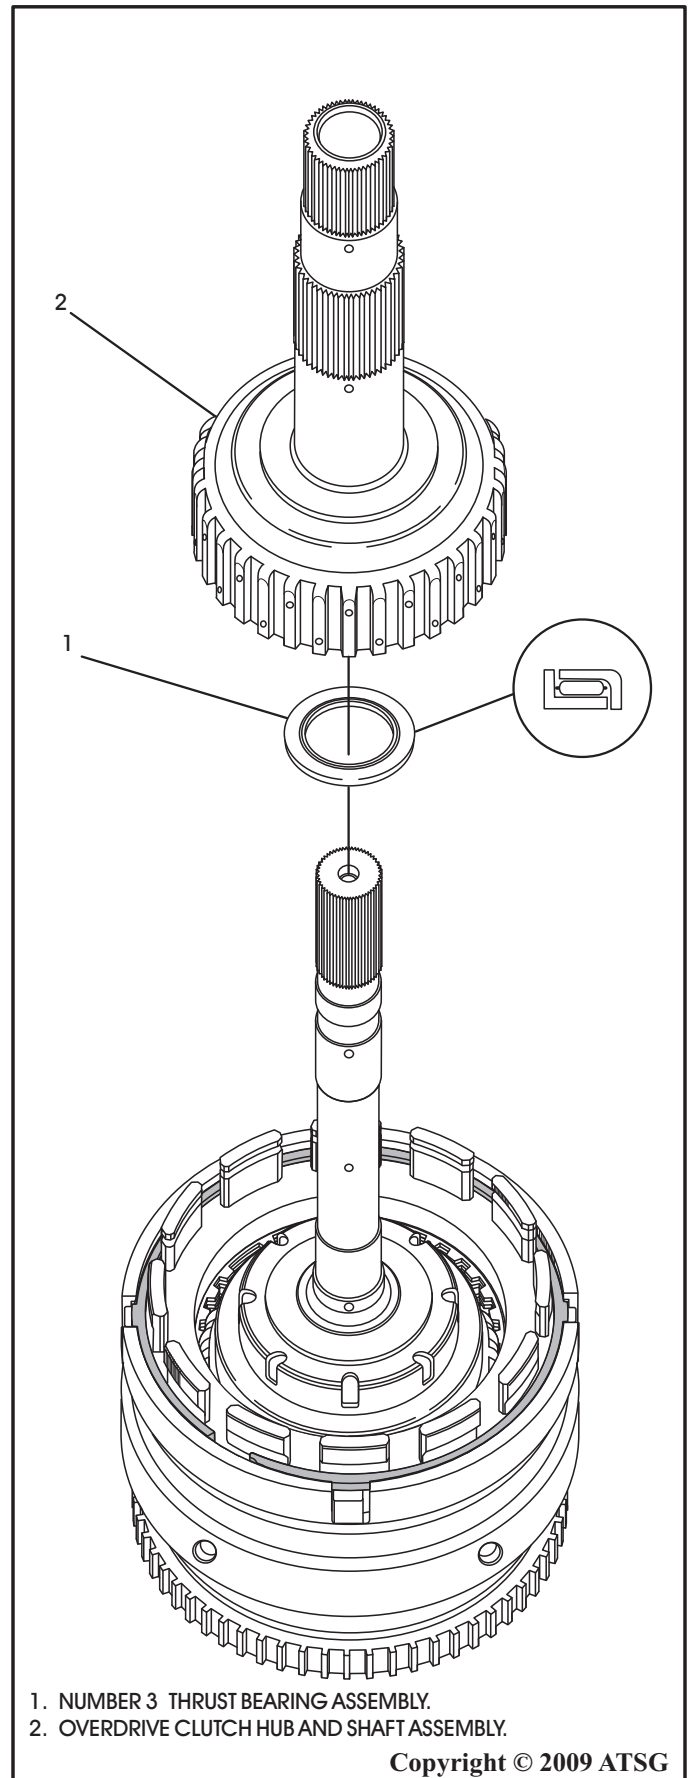

Figure 82
44. Install the number 3 thrust bearing into the overdrive clutch hub and shaft, in the direction shown in Figure 82, and retain with TransJel®.